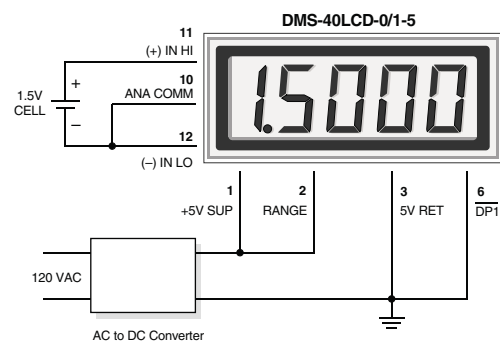
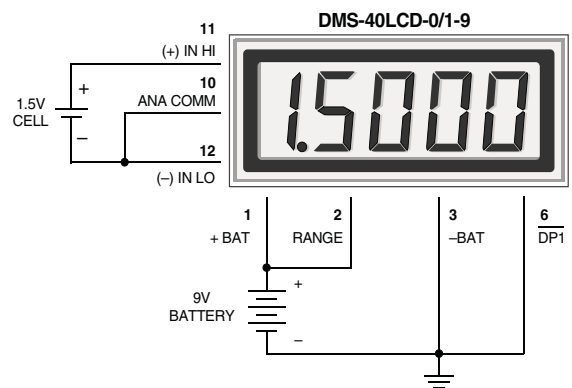

Figure 5. Floating Input Measurements (5V-Powered Models)
Figure 6. Floating Input Measurements (9V-Powered Models)
4. Floating Signal Source Measurements: Floating signals can be measured using the circuits shown in Figures 5 and 6. Figure 5 uses a 5V-powered meter. Figure 6 uses a 9V-powered meter. Both figures show a DMS-40LCD-0/1 with pin 2 tied to pin 1 yielding a ±2V input range. Connecting pin 10 (ANALOG COMMON) to (-) INPUT LO (pin 12) provides the reference point for the meter's input.